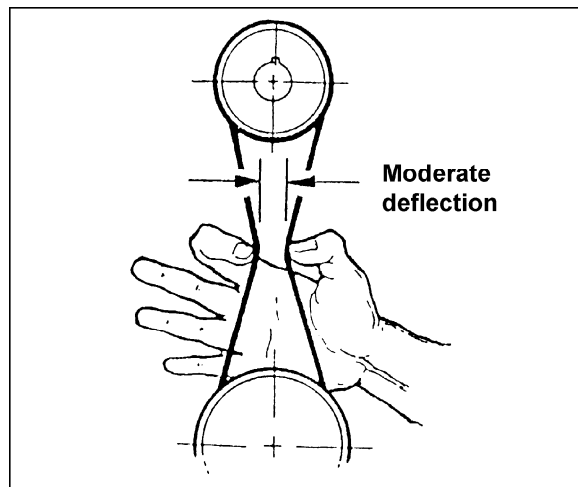

Figure 8
5. Let the motor slide back down and push down on it until the belt is properly tensioned. NOTE: There should be only moderate deflection, usually about  $\frac{1}{2}$ " in the belt midway between the pulleys when using light finger pressure (Figure 8).